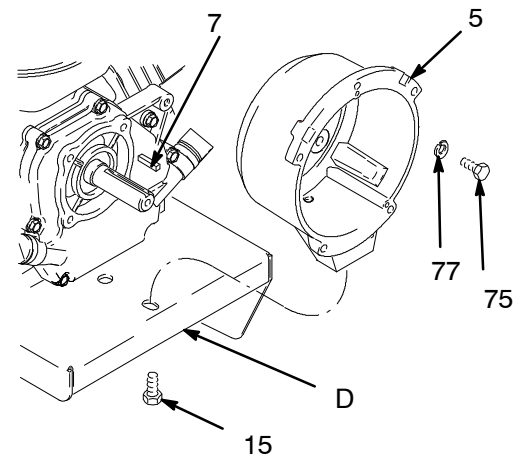

Fig. 9
1. Fig. 9. Remove four capscrews (75) and lockwashers (77) which hold clutch housing (5) to engine.
2. Remove screw (15) from under mounting plate (D).
3. Remove engine key (7).
4. Pull off clutch housing (5).
1. Fig. 9. Push on clutch housing (5).
2. Install four capscrews (75) and lockwashers (77) and secure clutch housing (5) to engine. Torque to 200 in-lb (22.6 N•m).
3. Install capscrew (15) from beneath mounting plate (D). Torque to 26 ft-lb (35.2 N•m).